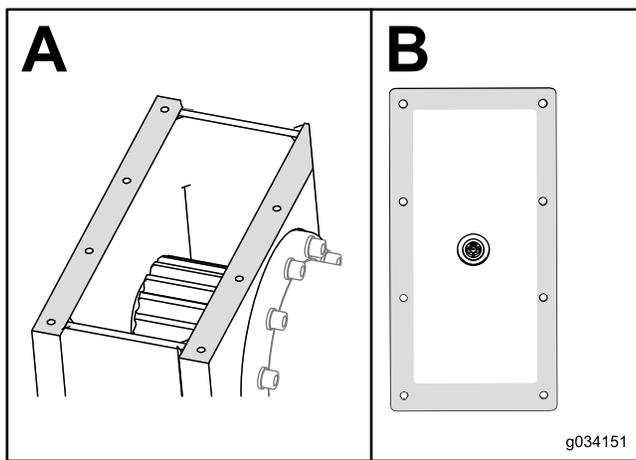

Figure 105
9. Clean the sealant off of the gearbox box and cover (Figure 105).
10. Put new automotive-grade RTV sealant around the edge of the cover (Box B of Figure 105).